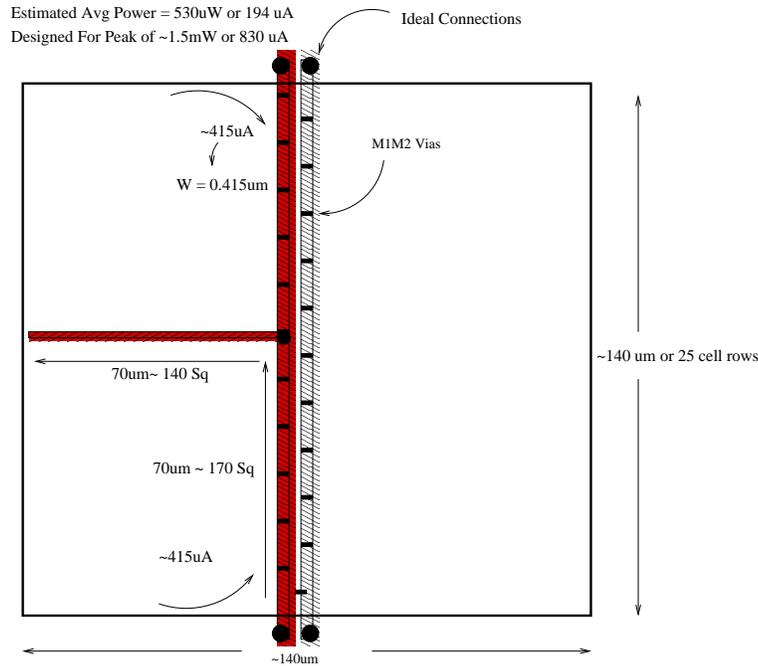

Figure 11: The powerplan as originally designed.
- The stripe must handle 830uA total. Referring to Figure 11, if evenly drawing from top and bottom sources, the current bottleneck will be 415uA. To satisfy current density limits, the power and ground supply stripes must be at least 0.415um wide.